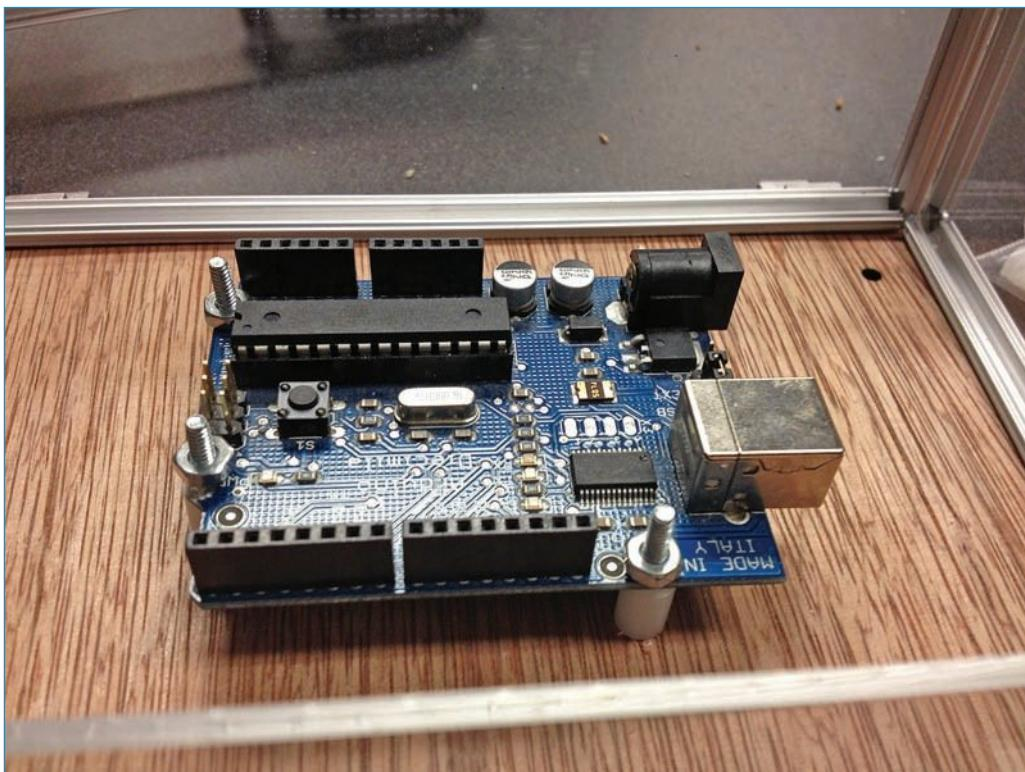

FIGURE 3.32 The standoffs and screws keep the Arduino positioned correctly.
6. Attach your Arduino to the base. If you’re planning ahead, you can laser cut the screw-holes. If you forgot, like me, then place the Arduino on the base and use a pen to mark where the holes on the Arduino’s PCB are located. Drill holes. Then, thread your #4-40 machine screws through the base and add the 3/8-inch standoffs. Place the Arduino on the screws and then tighten the nuts. When you’re done, it should look just like Figure 3.32.